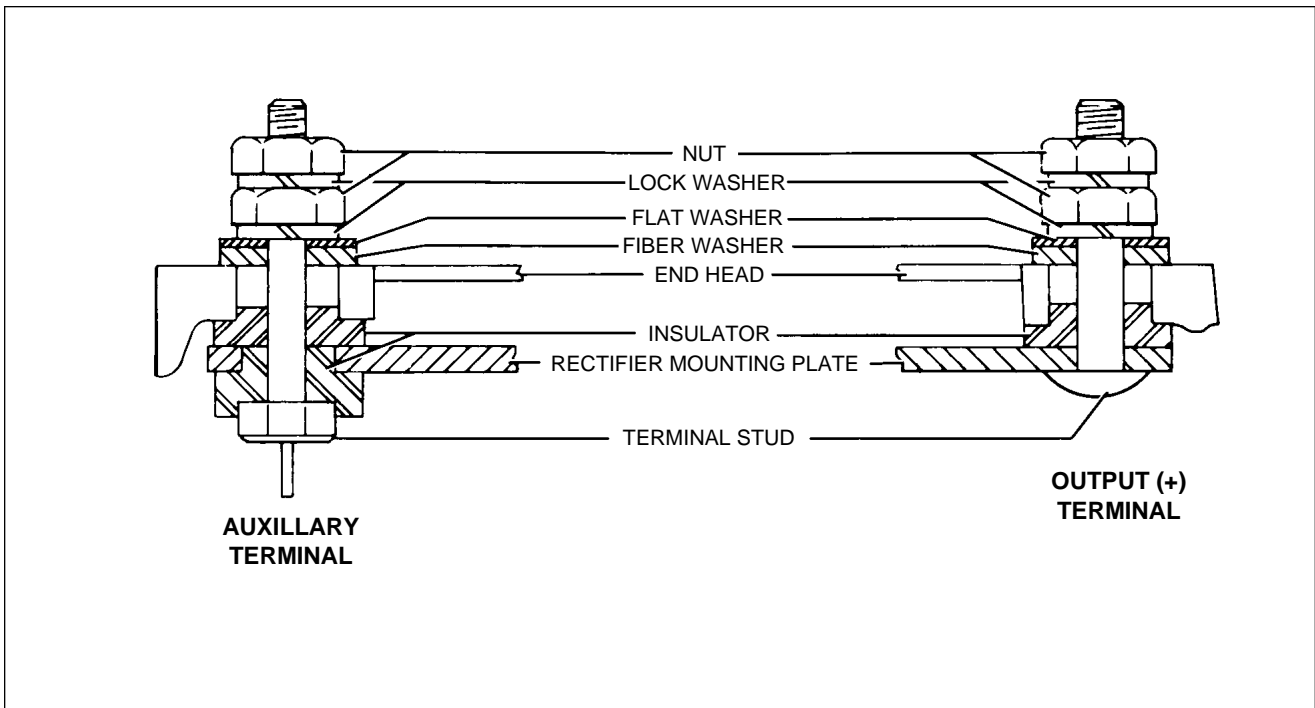

Figure 24-11. Terminal Assembly
- c. Assemble rectifier mounting plate studs and insulators. Verify they are in correct order. (Refer to Figure 24-11.)